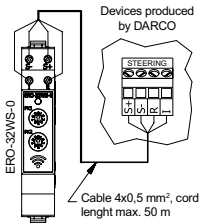
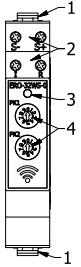
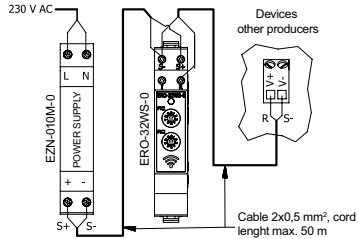

Figure 2. Electrical wiring diagram for devices produced by DARCO.
Figure 1. Regulator construction
Figure 3. Electrical wiring diagram for devices produced by other producers.
Controller has 4-pin connector (fig.1 pos.2) to connect steered device cable. **Joint should be made with the usage of 4-wire cable (cord-type) of 4x0,5mm2 cross section.** Figure 2 show the way controller and steered devices can be connected.
1. Hook one of the latches (fig.1 pos.1) onto a TS-35 rail.
2. Pull the other hook (fig.1 pos.1) away with flat screwdriver and then push the controller towards the TS-35 rail.
3. Release the hook (fig.1 pos.1).
ERO-32MN-1 and ERO-32MN-2 controllers have 4-pin connector (fig.1 pos.2) to connect power and steered device cable. **Joint should be made with the usage of 2-wire cable (cord-type) of 2x0,5mm2 cross section.** Figure 3 shows the way controller and power and steered devices can be connected.
Before switching the controller on, it is necessary to select the device to be steered. Selection is made with the usage of two PK1 and PK2 coding switches (fig.1 pos.4) that are to be set in accordance to the information in table No 1. Diode (fig.1 pos.3) is confirming the type of device chosen (in sequence: color green, red and yellow).
Speed adjustment or setting voltage of steered device is made manually, with the usage of a knob (fig.1 pos.5). Turning it all the way left makes the controller go in standby mode.
Table 4. **Signaling of incorrect values of PK1 and PK2 code switches (fig.1 pos.4):**